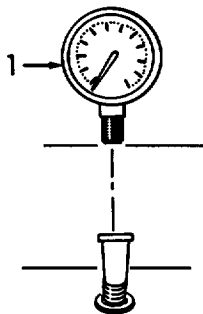

Figure 3-37. Pressure Gage, Removal.
- a. *Removal.* Unscrew and remove pressure gage (1, Figure 3-37).